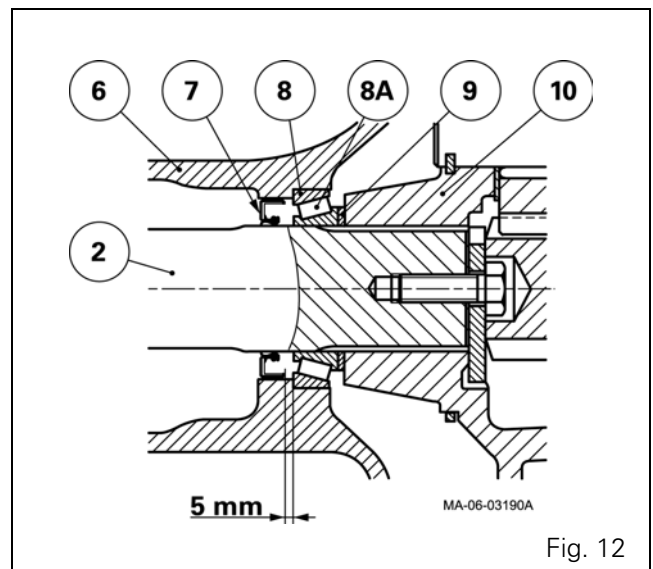
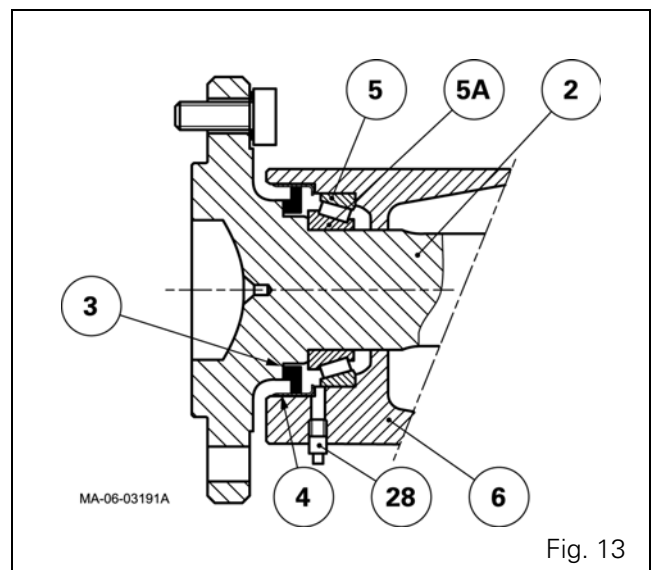

Fig. 12
Fig. 13
- with shaft replacement (2):** position the seal 5 mm from the shoulder of the cup (8) (Fig. 12).
68. Lubricate the cups (8) (5) and fit them home against the shoulder.
69. Fit the cage (4) into the base of the shoulder (Fig. 13).
NOTE: Follow the assembly order of the seal (Fig. 13).
75. Refit the cone (8A), washer (9) and planet carrier (10).
77. Replace plug (28) with a grease nipple. Partially fill the trumpet cavity between the cone (5A) and the seal (3) with BP Agricharge grease or equivalent. Take off the grease nipple and tighten the plug again (Fig. 13).